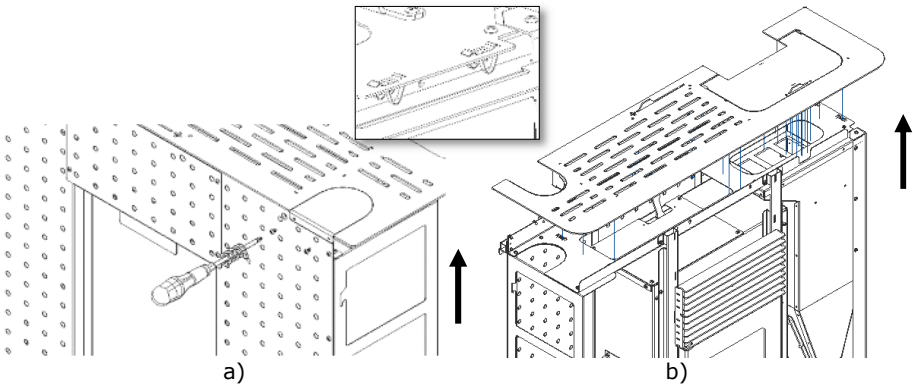

Figure 54 - Removing the top cover
a) Remove the unit's top cover. First, detach the small lid secured to the back by releasing the two screws (Figure 54-a). Then, slide the lid by pulling it up as shown by the arrows. No tools are required as the lid is spring-attached to the unit (Figure 54-b).